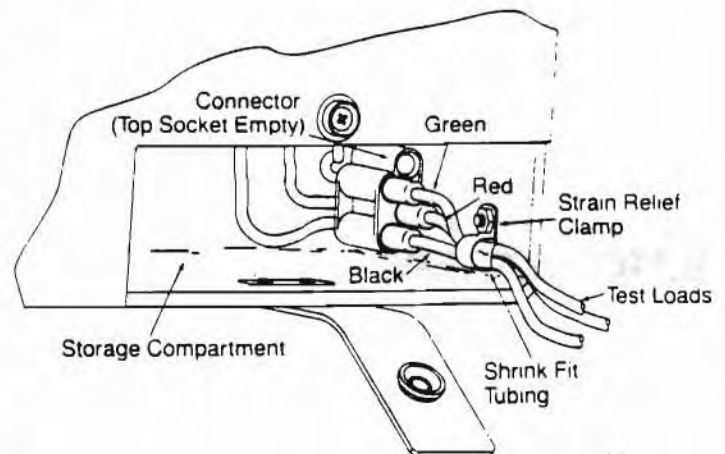

Figure 2-2
6.10 If the test leads become damaged, a new set can be installed by removing the nylon strain relief clamp located in the storage compartment. See Fig. 2-2. This will require the use of a phillips screwdriver and a 5/16" open-end wrench. Make a note which color lead goes to which socket on the connector. It is important that the new test leads be inserted into the correct socket on the connector. The damaged test leads can now be removed by pulling on each lead individually until it pops out of the connector. Needle nose pliers may be helpful. After the old test leads have been removed, the new test leads are individually inserted into the correct socket as noted before. After all leads are connected, run self-test (opens and ohms).